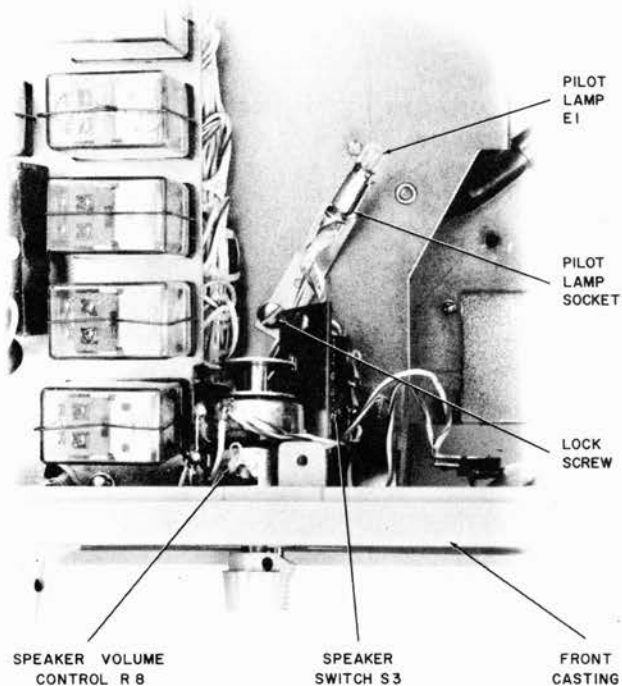

FIGURE 14 PILOT LAMP REPLACEMENT
- b. Loosen Lock Screw and slide out Pilot Lamp Socket as shown in fig. 14.